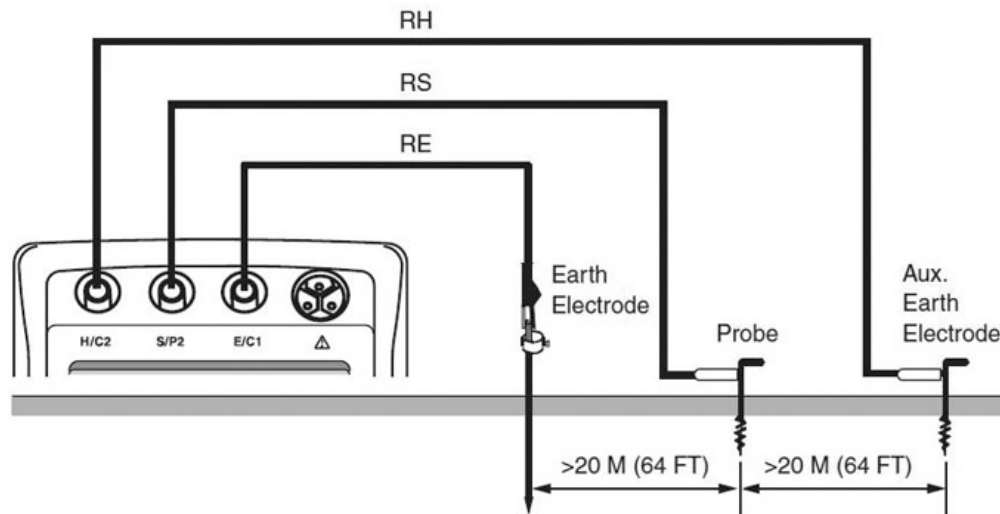

Figure 2-24. Earth ground tester.
1. Insert the probe and auxiliary electrode stakes into the soil as shown in figure 2-24.
5. Install the test leads shown in figure 2-24.
7. When the measurement is done, the earth ground electrode resistance (RE) automatically displays. To display the auxiliary electrode resistance (RH) press display. To display the probe resistance (RS), press display again.